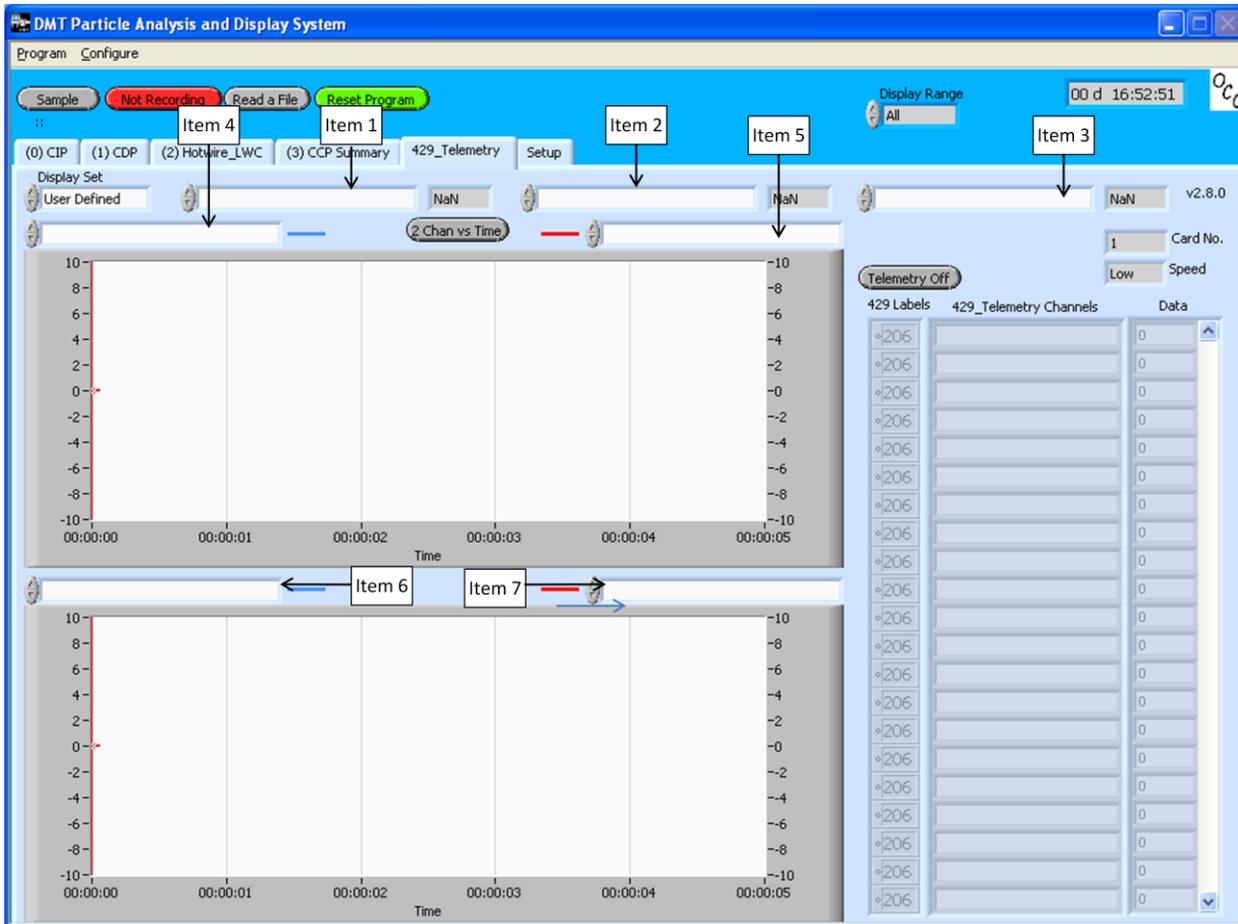

Figure 4: 429 Telemetry Main Window
| Figure 4: 429 Telemetry Main Window | 11 |
The Display Editor allows you to define sets of data that the 429 Telemetry window displays. A set is basically a single configuration of the 429 Telemetry window. It specifies items 1-7 that PADS uses in this display. (Figure 4 illustrates where these items appear on the 429 Telemetry display.) Note that any set can include channels from any instrument in the system. For instance, you might define a set called “LWC” that displays and graphs LWC readings from various instruments. For information on channels and their definitions, see *Appendix A of the PADS Operator Manual, DOC-0116*.
If you have created sets on the Display Editor screen (see section 2.0), you can display these pre-specified channels by selecting the desired set in the **Display Set** control in the upper left of the screen. You can also change the channels being displayed by directly editing the item fields shown in Figure 4. If you modify the item fields this way, the **Display Set** value changes to “User Defined.” You can revert to a pre-defined set by selecting that set in **Display Set**.